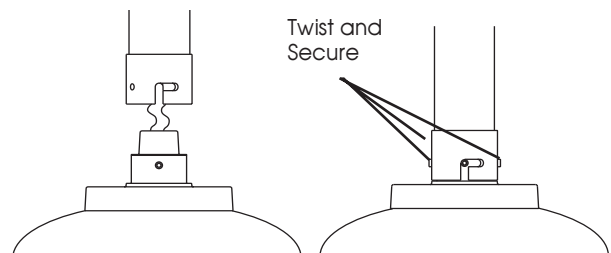

Figure 3
- 1 Mount the housing assembly to the mounting bracket and housing coupling. A safety cable is included with the housing to temporarily hold it while making wiring connections. Loop the safety cable over one of the set screws on the housing coupling and make the appropriate connections using the (2) screw-down connectors supplied.
- 2 Undo the safety cable and twist the housing onto the housing coupling. Secure all (3) setscrews provided on the housing coupling (Figure 3).